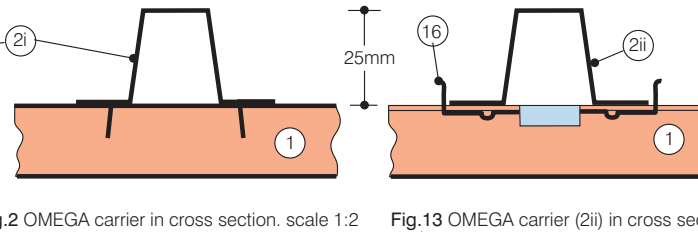
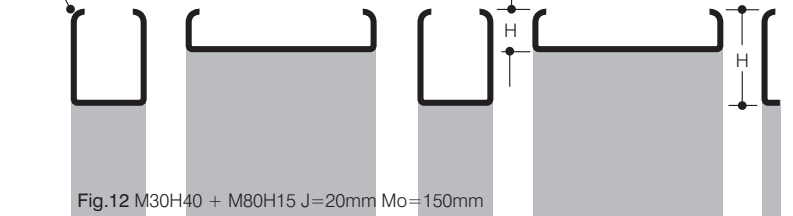

Fig.2 OMEGA carrier in cross section. scale 1:2
Fig.12 M30H40 + M80H15 J=20mm Mo=150mm
MODULAM ceilings contain continuous open joints (J). These can be closed on site by fitting one of the closure strips (9) or (10) (Figs.7 & 8). Different profiles can be combined, using a compatible carrier (2i) (Fig.2), to produce stepped ceiling sections like that seen in Fig.12. Other contouring is achieved by employing a flexible carrier (8) (Fig.3). Joint widths between MODULAM profiles ref. M85H13 and M85H20 can be varied, if necessary, in the manner described opposite. Ceilings overlaid with inert fibrous insulation material (4) (Fig.3) act as sound absorbent membranes. To achieve this the joints between plain profiles must be open (Fig.6).